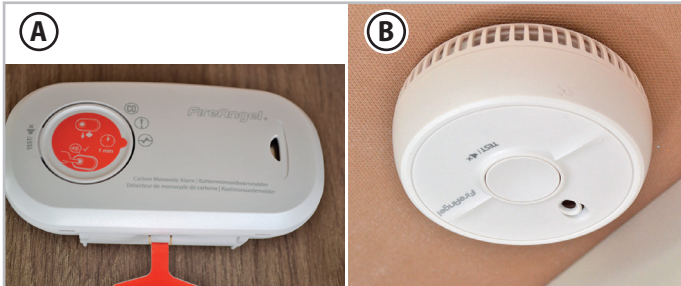

Fig.6.27 - Carbon monoxide and smoke detectors
Some vehicles are equipped with devices for the detection of carbon monoxide (**A** - Fig.6.27) and smoke (**B** - Fig.6.27). These devices are placed on the wall or roof of the vehicle near the entrance door.
**Before travelling and at least once a week, check that the carbon monoxide detector (A - Fig.6.27) and the smoke detector (B - Fig.6.27) are working correctly, as described in the instruction booklet provided by the manufacturer of these devices.**
The carbon monoxide detector (**A** - Fig.6.27) sounds an alarm if the amount of gas exceeds the permitted limit. When the batteries are connected to the device, a green light blinks every minute to indicate that it is working correctly.
The smoke detector (**B** - Fig.6.27) sounds an alarm if the amount of smoke exceeds the permitted limit. When the batteries are connected to the device, an LED light blinks every 30 seconds to indicate that it is working correctly.